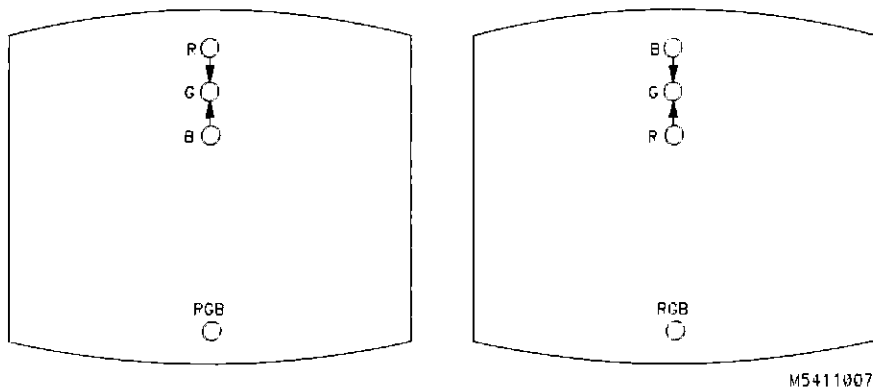

Figure 3-16. V.STAT TOP Adjustment
4. Adjust V.STAT TOP (RV801) and V.STAT BOTTOM (RV802) located on the bottom PC board to obtain coincidence of the red, blue and green at the intersection of the top and bottom horizontal lines with the center vertical line (see figures 3-16 and 3-17).